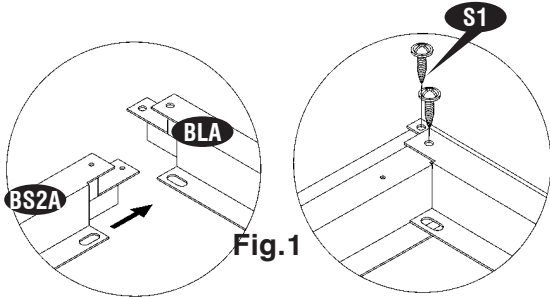

Fig.1
6. Place the base bar side assembly on left side. Insert the edge of **(BS2A)** into the back base bar **(BLA)** and secure with **(S1)** screws. See fig. 1 Place the base bar side assembly on right side. Insert the edge of **(BS1A)** into the back base bar **(BRA)** and secure with **(S1)** screws. See fig. 2